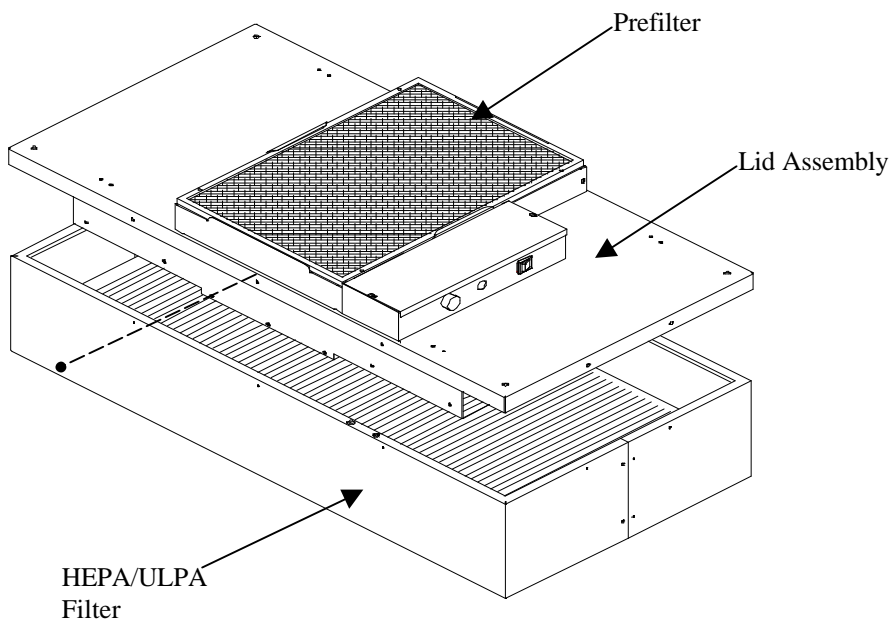

Figure 2
Step 3. Lift the lid assembly off the HEPA/ULPA filter (see Figure 2). Discard the used filter as per requirements of the applicable regulations.